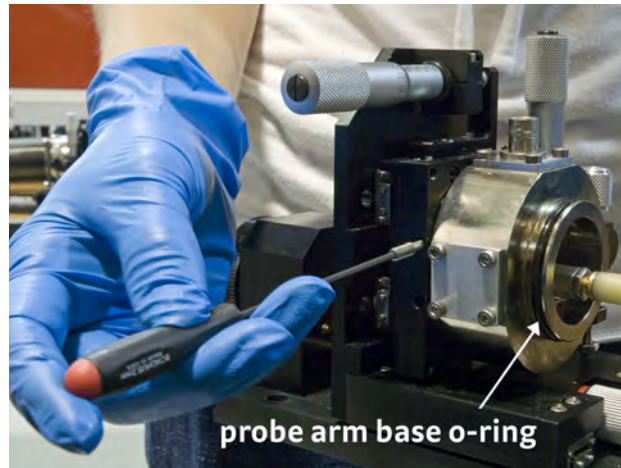

FIGURE 5-10 Inserting the threaded dowels into the z-axis stage
1. Insert the probe arm base into the z-axis stage. Orient the probe arm base as shown in FIGURE 5-10, and hold it in place. Precise alignment is not necessary.
2. Insert the two threaded dowels into the z-axis stage (FIGURE 5-10). Tighten until snug.
5. Clean the o-ring groove in the probe arm base (FIGURE 5-10). Clean, inspect and lightly grease the o-ring with vacuum grease and place it in the groove.